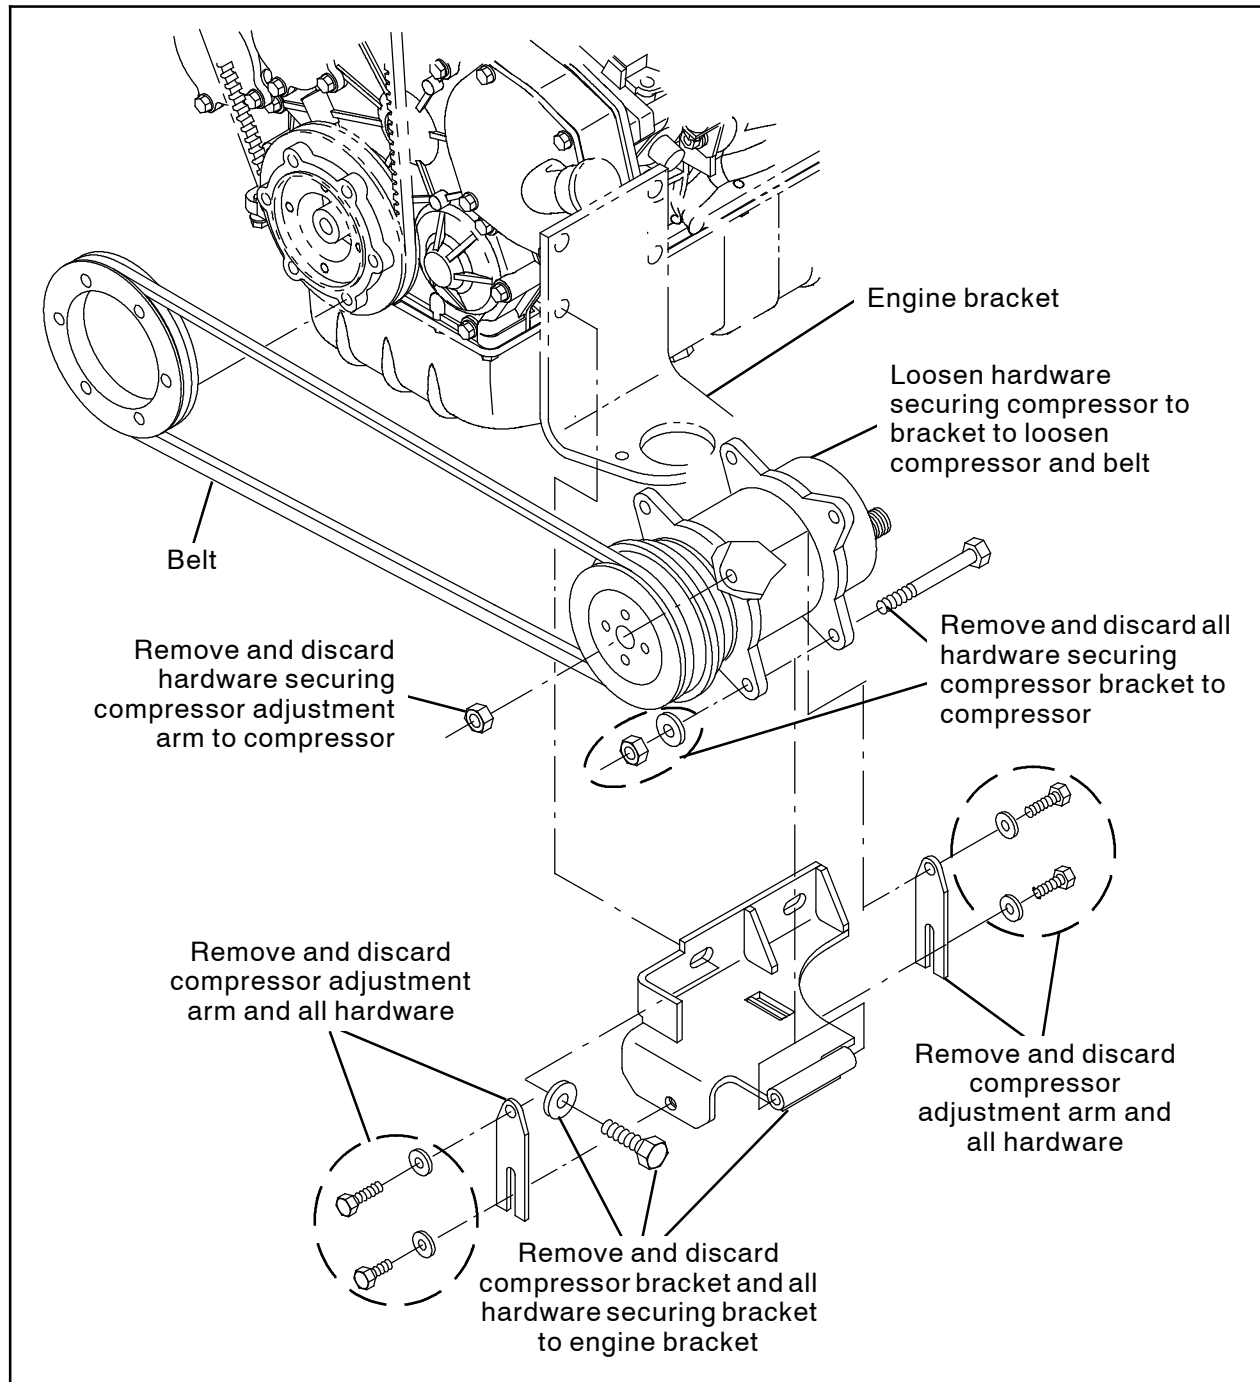

FIG. 1
1. Loosen the hardware securing the compressor to the machine to loosen the compressor and belt. (Fig. 1)
2. Remove the compressor adjustment arms from the machine. Discard the adjustment arms and all hardware. (Fig. 1)
3. Remove the compressor bracket from the compressor and the engine bracket. Discard the compressor bracket and all hardware. (Fig. 1)